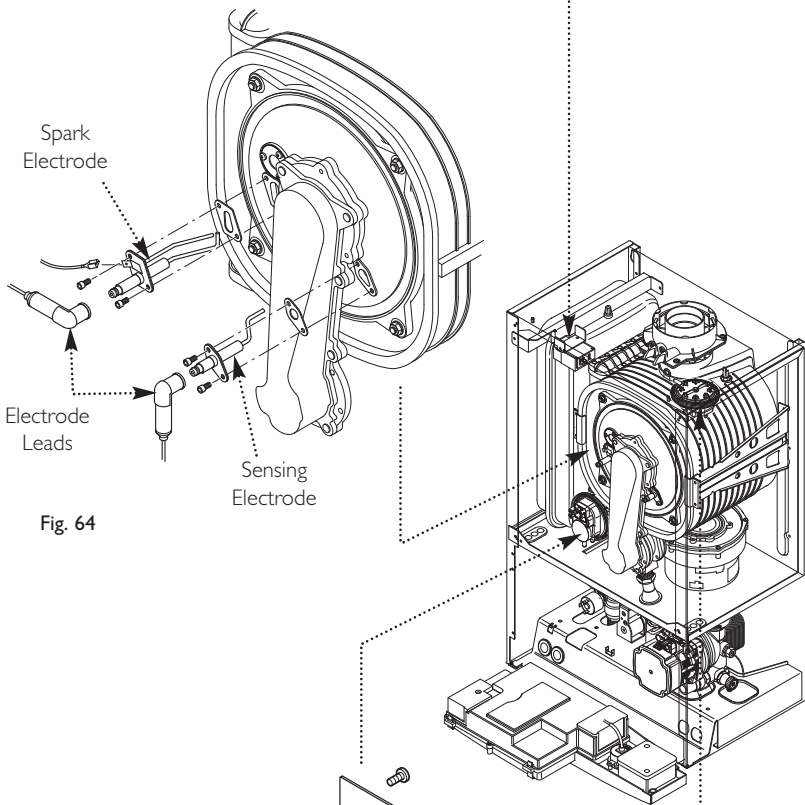

Fig. 64
13.2 Spark and Sensing Electrodes (Fig. 64)